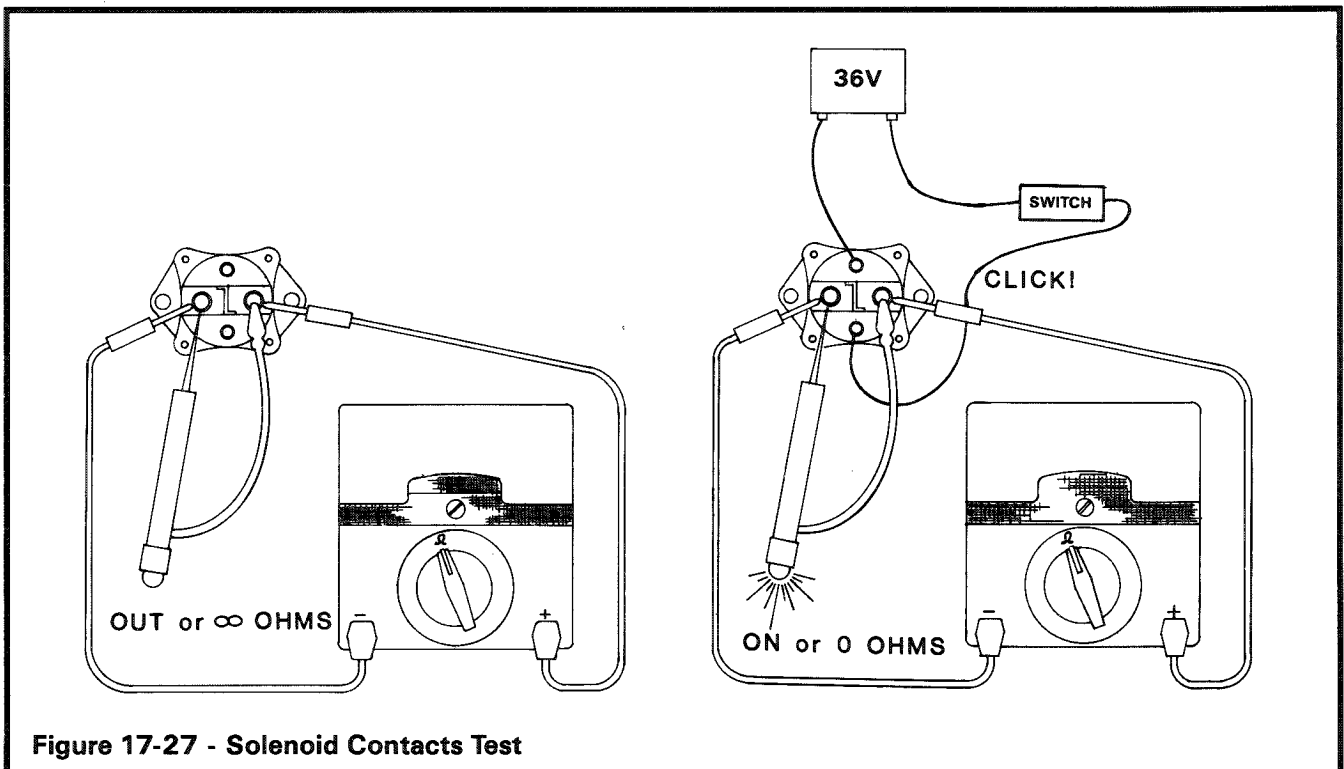

Figure 17-27 - Solenoid Contacts Test
4. To test solenoid studs, place VOM or continuity tester across contacts. Reading should be no continuity (Figure 17-27).
5. Activate the coil by applying 36 volts across the activating coil studs. Reading across solenoid contacts should show continuity (Figure 17-27).